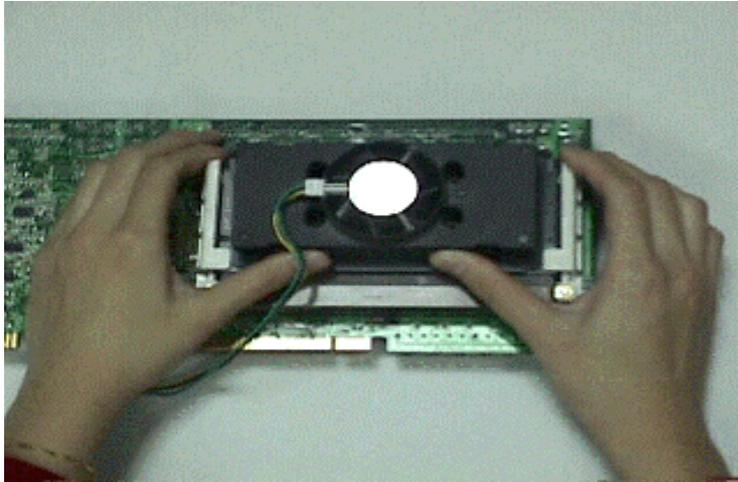

Fig. 3-2
- 2). Unmount the CPU Cartridge: Press the locks at both sides of the cartridge. Push gently but firmly the CPU Cartridge out of the retention module. (refer to **Fig. 3-2**)